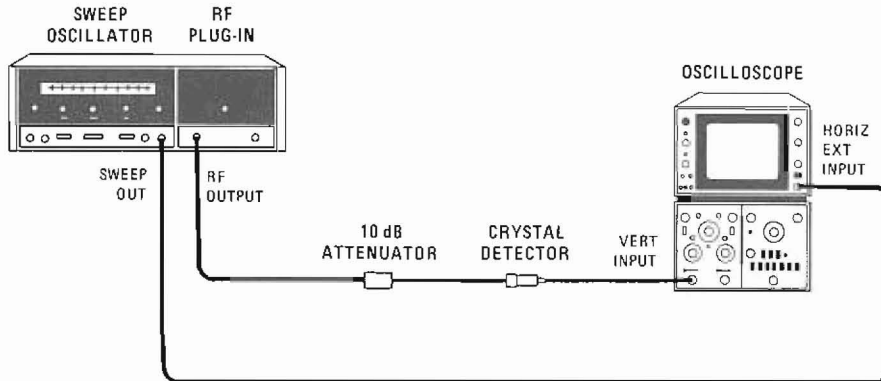

Figure 5-5. Blanking Level Adjustment Test Setup
- a. Connect equipment as shown in Figure 5-5. Press 8620A CW pushbutton.